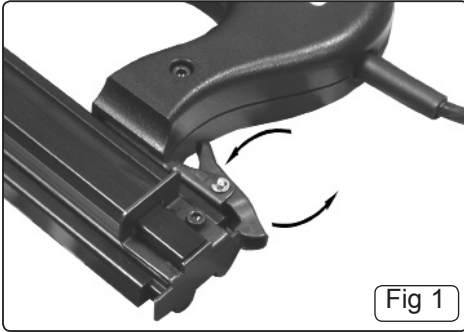

Fig 1
- 3.1.3 Release loading mechanism by pressing the release button (Fig 1), Hold nailer firmly and be aware that the magazine will slide out under spring action.